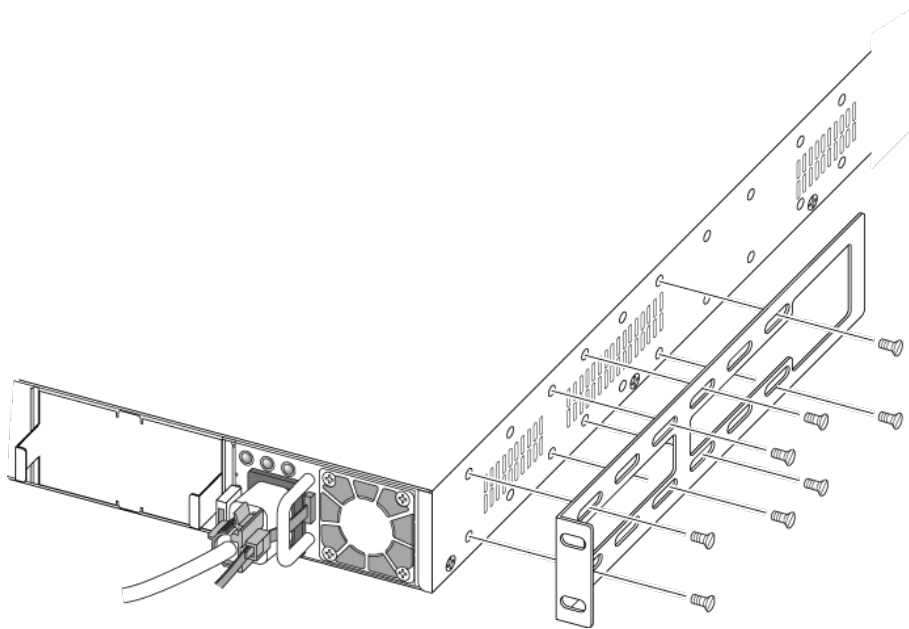

Figure 172: Attaching the Mounting Bracket to the EPS-C2 Chassis
- a Place a mounting bracket over the mounting holes on one side of the EPS-C2 (see Figure 172).